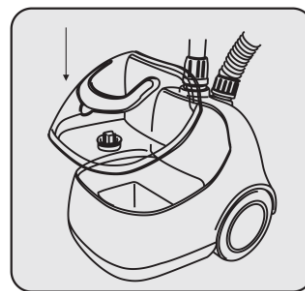

Fig.7
- To prolong the service life of your garment steam iron, we recommend to use distilled or de-mineralized water. Place the water tank back into the unit and make sure it sits properly and securely in the cavity. (See Fig.7)